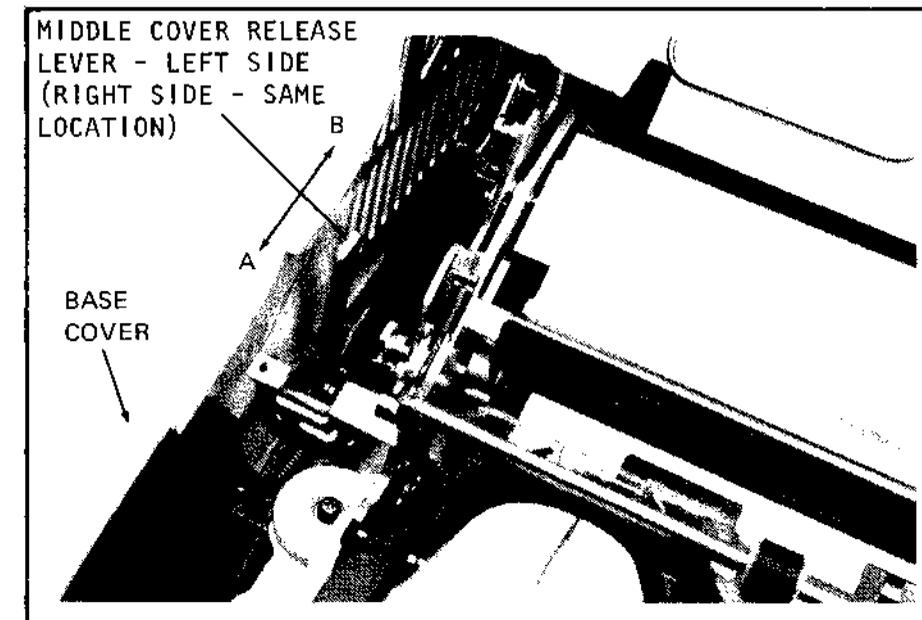

Figure 4-2 Middle Cover Release Lever
- f. Hold the cover sides with both palms, and, using the thumb, move the middle cover release levers in arrow direction A (Figure 4-2) and disengage from the lever plate.